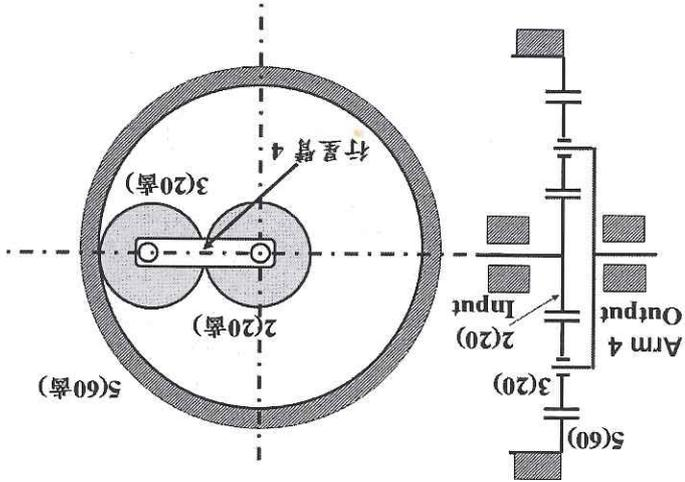

Fig. 5 Planetary gear train
5. For the planetary gear train shown in figure 5 (Ring gear 5 is fixed), if  $\omega_2=3600\text{rpm}$  (CCW), please find  $\omega_4$  (value and its direction). (15%)